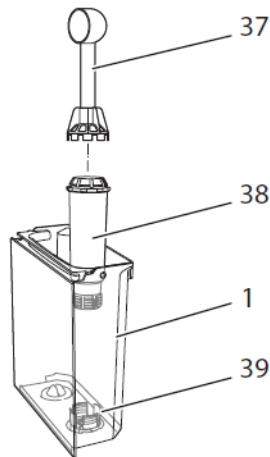

Fig. 18: Screwing/unscrewing the water filter
- Remove the water filter when the appliance requests you to do so (see Fig. 18).